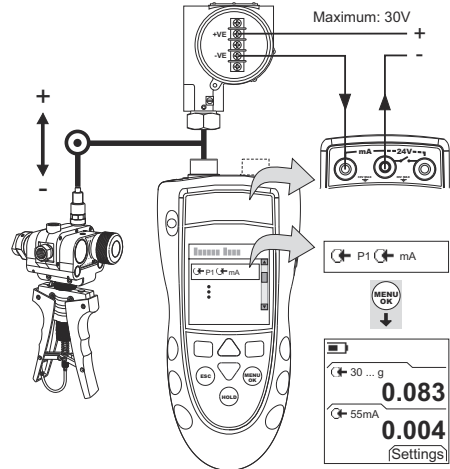
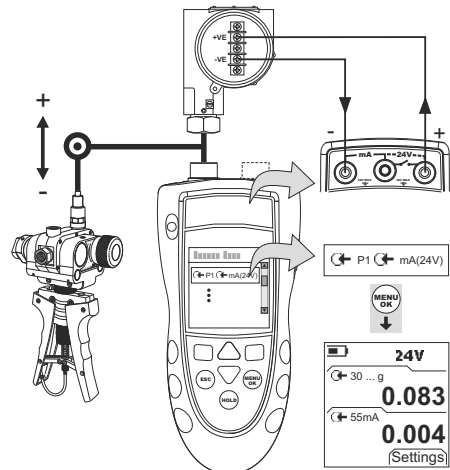

Figure 5: Example Configuration - Transmitter Calibration with External Loop Power
Figure 6: Example Configuration - Transmitter Calibration with Internal Loop Power
- Connect the instrument (Figure 5 or Figure 6) and, if necessary, adjust the Set Up (Table 1).